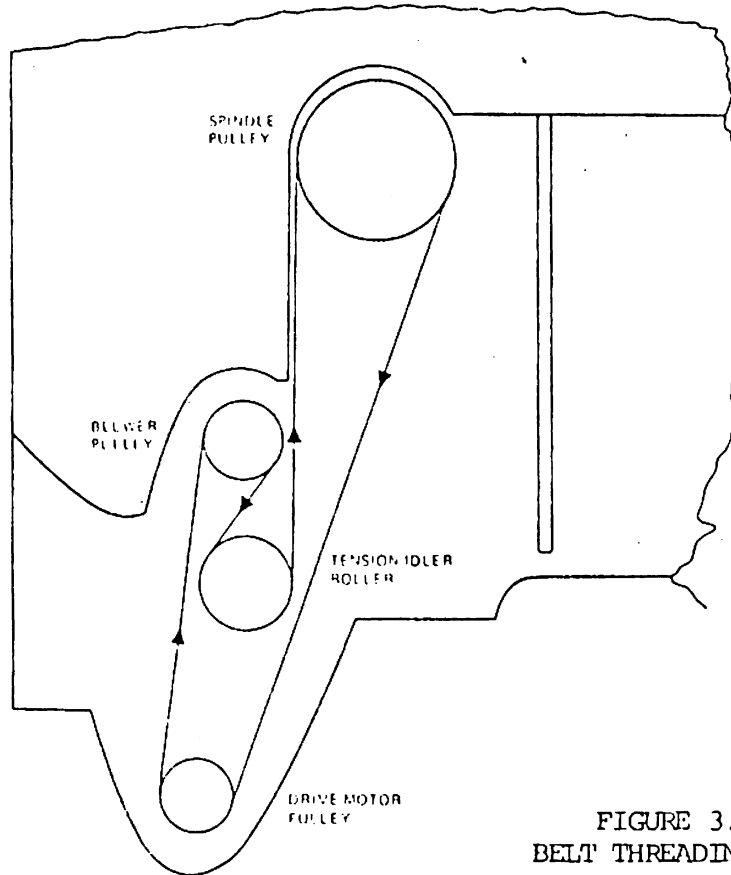

FIGURE 3.
11. Loop one end of the drive belt around spindle pulley. Center the belt on crown of pulley and, by hand, hold the remainder of belt taught until step(12) is completed. See Figure 3.